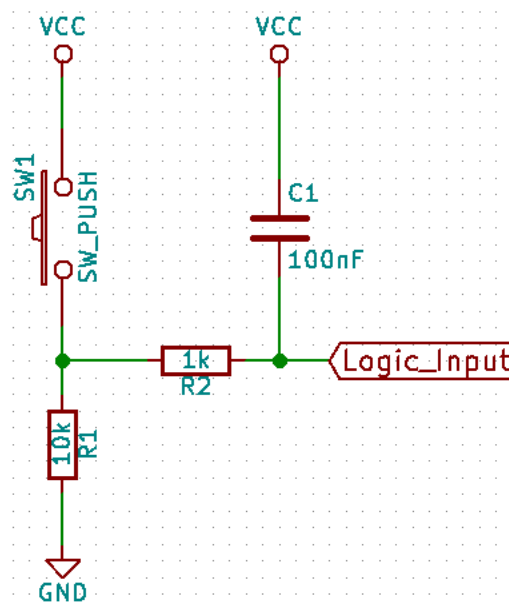

Figure 8: The addition of a  $1\text{k}\Omega$  resistor and  $100\text{nF}$  capacitor is one method to minimise switch bounce seen by digital logic circuits.
7. Construct the resistor-capacitor (RC) debouncing circuit shown in Figure 8. (NB the theory behind the ‘RC filter’ is beyond the scope of this course. You will learn all about capacitors in ELEC1310.)